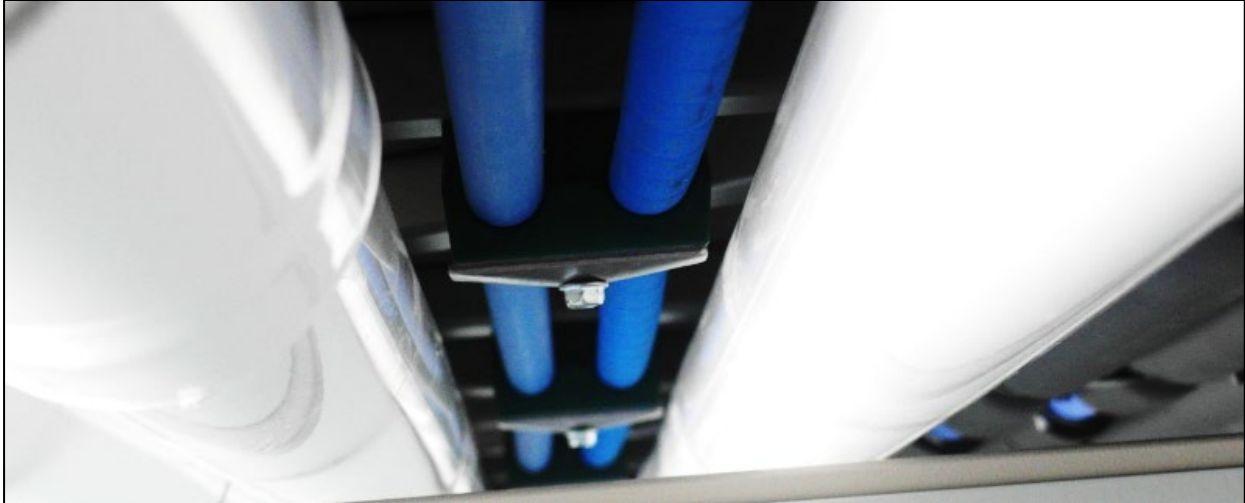

Figure 7: Inside Luggage bays
6. Remove the nine (9) block clamps on the luggage bay ceiling. (Fig. 7)